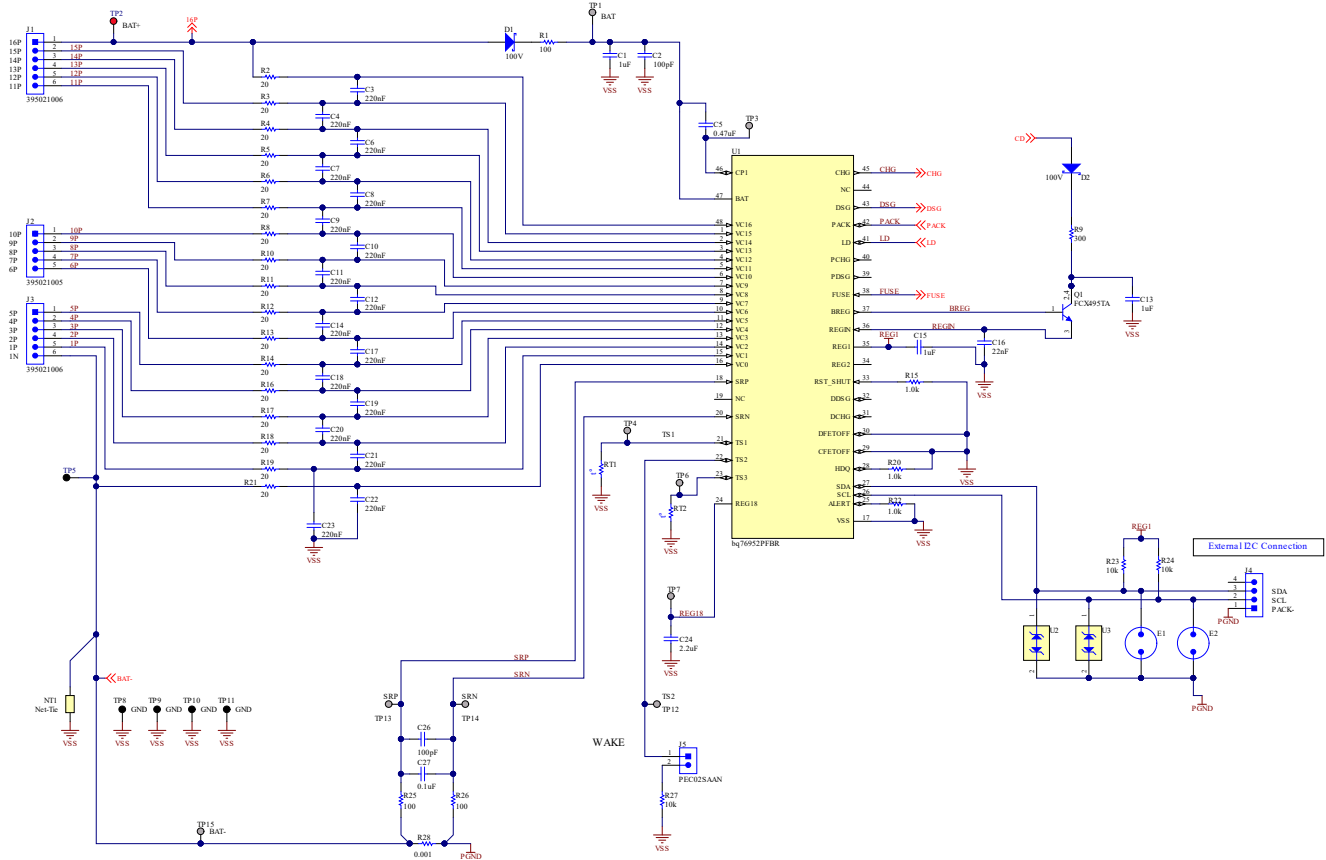

图 16-2. BQ76952 16-Series Cell Schematic Diagram—Monitor
- Power Dissipation, which can be a factor of the RDS(ON) rating of the FET, the FET package, and the PCB design.
- The overdrive level of the BQ76952 device charge pump should be selected based on RDS(ON) requirements for the protection FETs and their voltage handling requirements. If the FETs are selected with a maximum gate-to-source voltage of 15 V, then the 11 V overdrive mode within the BQ76952 device can be used. If the FETs are not specified to withstand this level, or there is a concern over gate leakage current on the FETs, the lower overdrive level of 5.5 V can be selected.
- A diode can optionally be included in the collector circuit of the BJT, in order to avoid reverse current flow from BREG through the base-collector junction of the BJT to PACK+ during a pack short circuit event. This diode can be seen in 図 16-2 at D2.